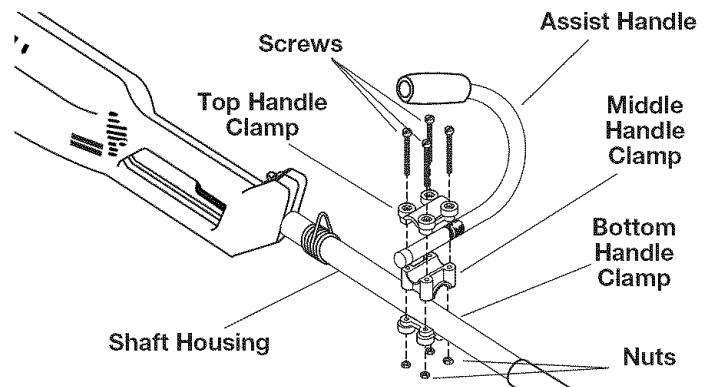

Fig. 1
1. Place the assist handle between the top and middle clamp pieces (Fig. 1).
2. While holding the three pieces together, install the four (4) screws through the top clamp and into middle clamp.